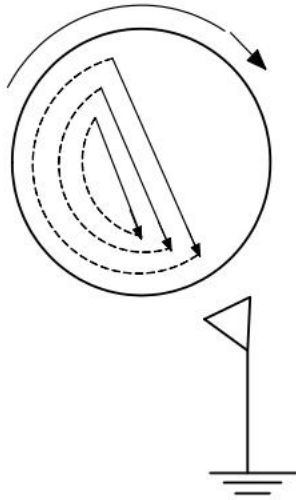

Figure 4
The (2), audio receiver is best for the position where the crush falls when the mill runs in the circular direction. As shown in Figure 4